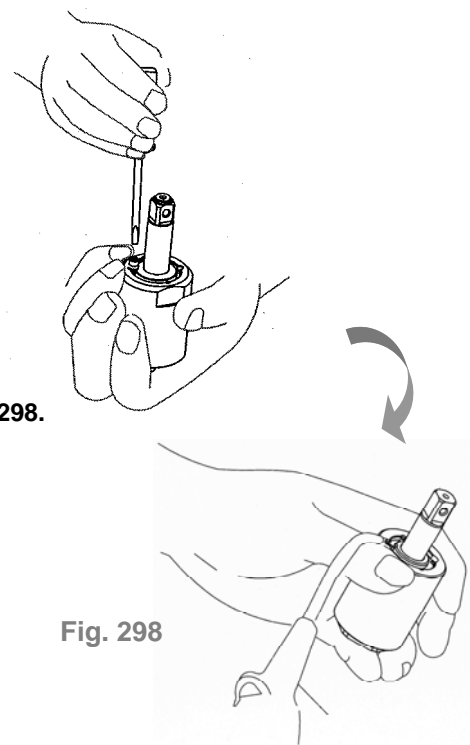

Fig. 298
- ④ Use an air spray gun to blow off the oil on the cylinder seat, Fig. 298.